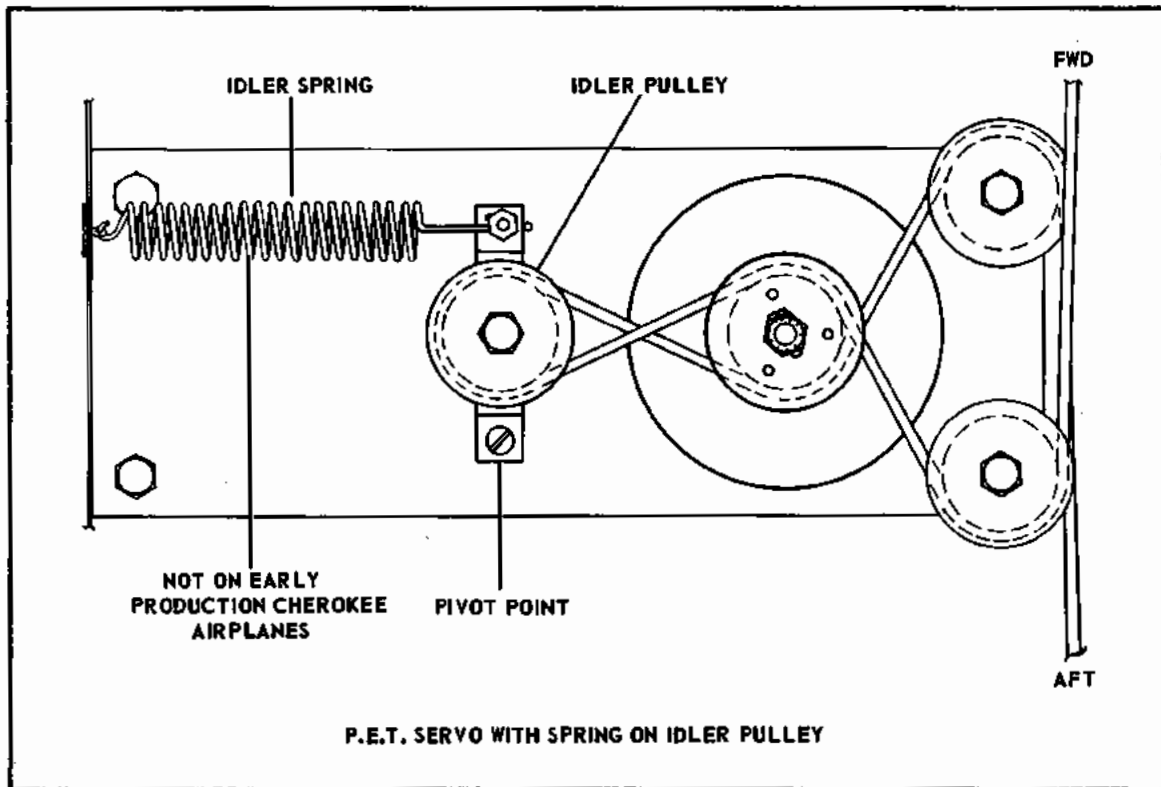

Figure 3-7. PA-28 and PA-32 Trim Servo Cable Routing
- d. On PA-28-151, Serial Nos. 28-7415001 and up; PA-28-161, Serial Nos. 28-7716001 and up; PA-28-180, Serial Nos. 28-4378 and up; PA-28-181, Serial Nos. 28-7690001 and up; PA-28R-180, Serial Nos. 28R-30005 and up; PA-28R-200, Serial Nos. 28R-35001 and up; PA-28R-201, Serial Nos. 28R-7737001 and up; PA-28R-201T, Serial Nos. 28R-7703001 and up; PA-28-235, Serial Nos. 28-10720 and up, (refer to Figure 3-7), route the trim cable from the forward section of the airplane around the aft idler pulley; then around the top capstan groove and around the aft side of the idler pulley located approximately in the center of the servo. Form a figure eight by continuing the cable around the bottom capstan groove; then around the forward idler pulley and route trim cable toward the aft section of airplane.
3-21. INSTALLATION OF TRIM SERVO. (PA-32.) (Refer to Figure 3-7.)